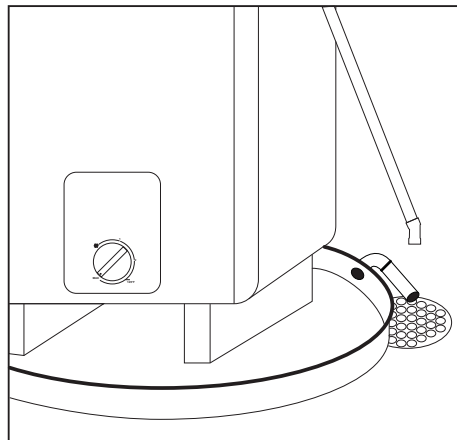

Figure 6 - A suitable drain pan piped to an adequate drain can help protect flooring from leaks and drips.
- Suitable drain pan (Figure 6 on page 8)
- Install a suitable drain pan (available at your local plumbing supply store) under the water heater (Figure 6) to catch condensation or leaks in the piping connections or tank. Most codes require, and we recommend, installing the water heater in a drain pan that is piped to an adequate drain. The drain pan must be at least two inches wider than the diameter of the water heater. Install the drain pan so the water level would be limited to a maximum depth of 1-3/4" (4.4cm).
- In a suitable drain pan piped to an adequate floor drain or external to the building (Figure 6 on page 8).